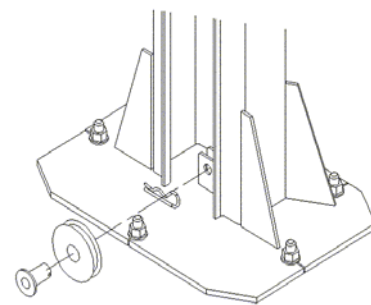

Figure 14: Pulley Assembly
7. At the bottom of the column, remove the hitch pin, pulley pin and pulley from the baseplate (**Figure 14**). Route equalizing cable around pulley and reassemble the pulley to the baseplate. **IMPORTANT – Hitch pin must be installed securely.**